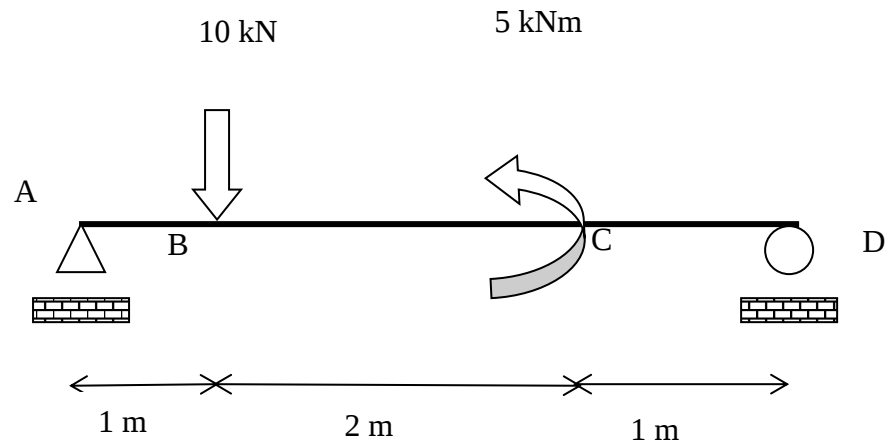

Figure 2(b) / Rajah 2(b)
- (b) By referring to Figure 2(b) below, if the reaction force at support A is 8.75 kN, using the moment area method. Determine slope and deflection at point B: